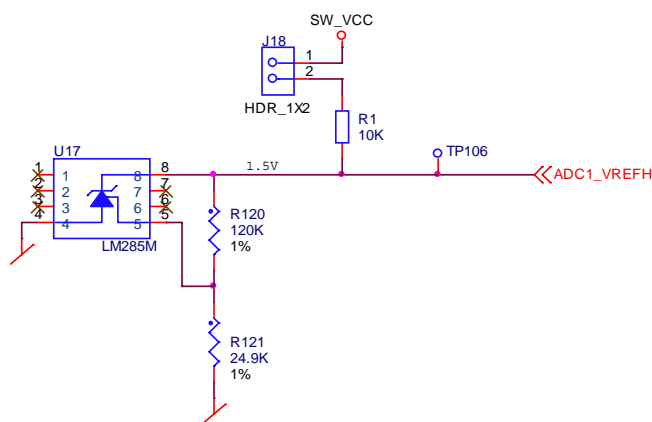

Figure 3-12. ADC Voltage 1.5 VDC Voltage Reference
- ADC voltage reference current - reference Figure 3-12. Voltage reference U17 is enabled via J18; current can be measured through this jumper.
- A fixed voltage reference for ADC1_VREFH is provided (see Figure 3-12).